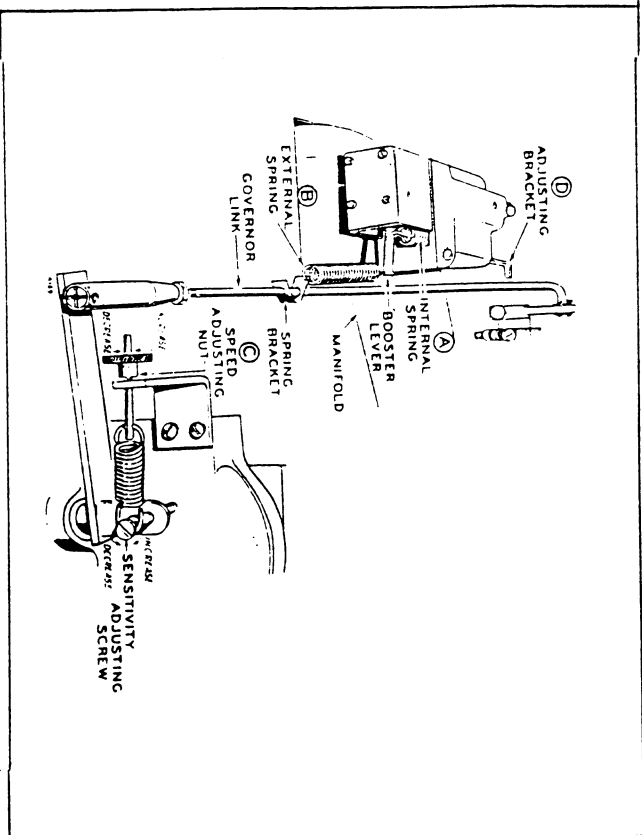

FIG. 13 - GOVERNOR AND BOOSTER
The booster is mounted on the intake manifold and is operated by engine vacuum through a small passage in the manifold. See Fig. 13. When the plant is operating at about half load or less, the engine vacuum is sufficient to cause the diaphragm to overcome the tension of the internal booster spring (A). Under these conditions, there is no tension on the booster external spring (B) and the booster does not affect the governor operation.
2. With the plant operating at no load, disconnect the booster external spring (B), Fig. 13. Turn the speed adjusting nut (C) to obtain a frequency reading of 60 to 61 cycles for a 60 cycle plant. The voltage should be within the limits shown in the table, according to the rated plant voltage shown on the plant nameplate.
3. Connect a full electrical load to the generator. As the electrical load is connected, the governor should act smoothly and quickly to keep the voltage within the limits in the table. However, there should be not more than a spread of 3 cycles between the no load frequency and the full load frequency. For example, if the frequency was 60 cycles at no load, then the full load frequency should be not less than 57 cycles. If the cycle spread is more than 3 cycles, turn the sensitivity screw, Fig. 13, in (clockwise) a half turn. This will, in turn, necessitate a slight compensating speed nut adjustment. Repeat the process until the cycle spread is within 3 cycles and voltage is within the limits shown in the table.
8. After satisfactory performance has been attained under various loads, the booster can be connected. With the plant operating at no load, connect the booster external spring, Fig. 13. Adjust the bracket on the governor link just to the position where there is no tension on the spring.
9. Now connect the full electrical load to the generator. The frequency should stabilize at a point 1 to 2 cycles HIGHER than the no load frequency. For example, if the no load frequency is 60 cycles, the frequency under full load should be 61 to 62 cycles. If the rise in frequency is more than 2 cycles, lessen the internal spring tension. If there is a drop in the frequency, increase the internal spring tension. Adjust the tension of the internal spring by pulling out on the spring bracket (D), and moving the pin to a different hole.
12. The booster requires little maintenance other than using a fine wire to clean the small hole in the short vacuum tube which fits into the hole in the top of the engine intake manifold. Do not enlarge this hole. If there is tension on the external spring, Fig. 13, when the plant is operating at no load or light load, it may be due to improper adjustment, restricted hole in the small vacuum tube, or a leak in the booster diaphragm.